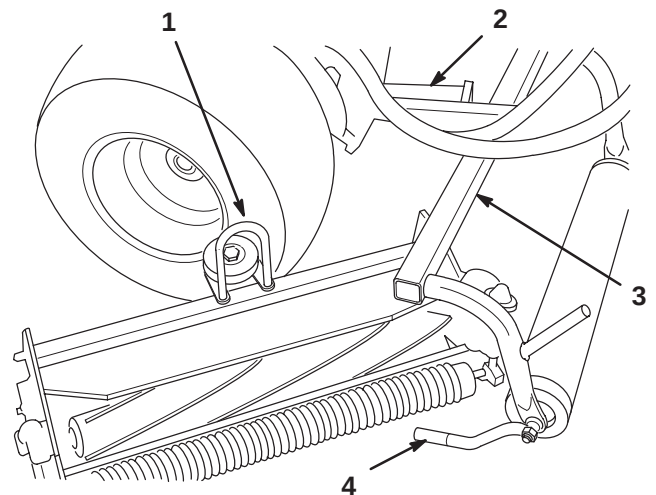

Figure 8
2. Slide the cutting units under the pull frames and position the hoop on the top of cutting units over the lift arms (Fig. 8).